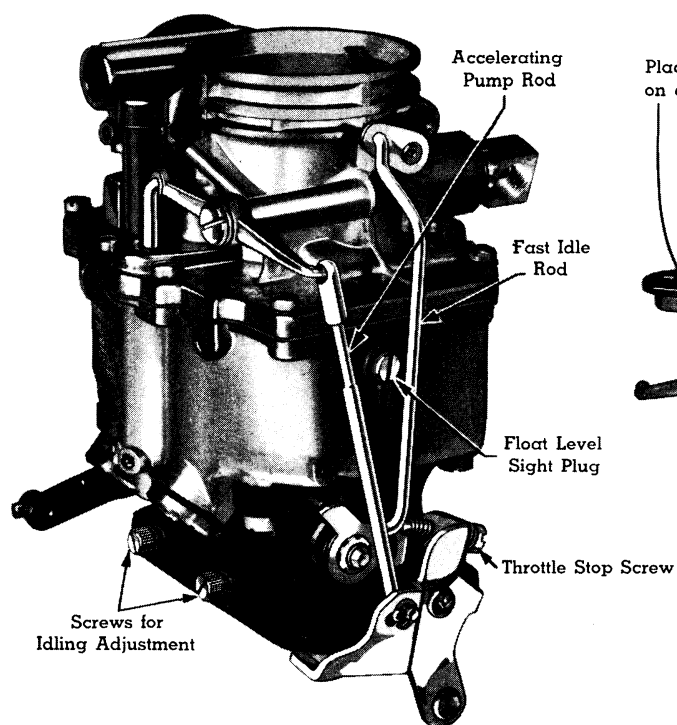

Fig. 34 Idling Adjustments
3. Adjust two idle adjustment screws so that engine runs smoothly without loping or stalling at this speed. (See Figure 34.)